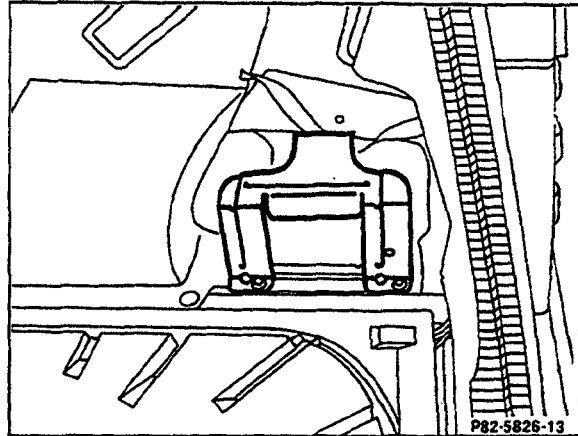

Figure 6
2. Remove small piece of carpeting from right hand side of trunk (beneath first aid kit) to reveal TR bracket and harness (Figure 6).
3. Remove bracket by removing the two front bolts and loosening the third rear bolt (do not remove completely) and lift bracket up and out (Figure 6).